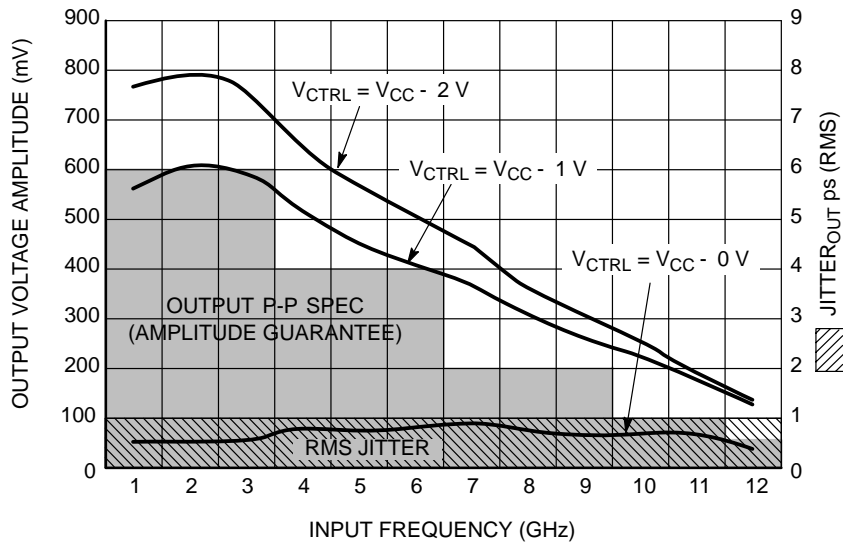

Figure 8. Output Voltage Amplitude (V_{OUTPP}) / RMS Jitter vs. Input Frequency (f_{in}) at Ambient Temperature (Typical)
22. Conditions include input amplitude of 500 mV and $V_{CTRL} = V_{CC} - 2\text{ V}$. Minimum output amplitude guarantee of 100 mV (see Output P-P Spec in Figure 8).
30. Conditions include input amplitude of 500 mV and $V_{CTRL} = V_{CC} - 2\text{ V}$. Minimum output amplitude guarantee of 100 mV (see Output P-P Spec in Figure 8).